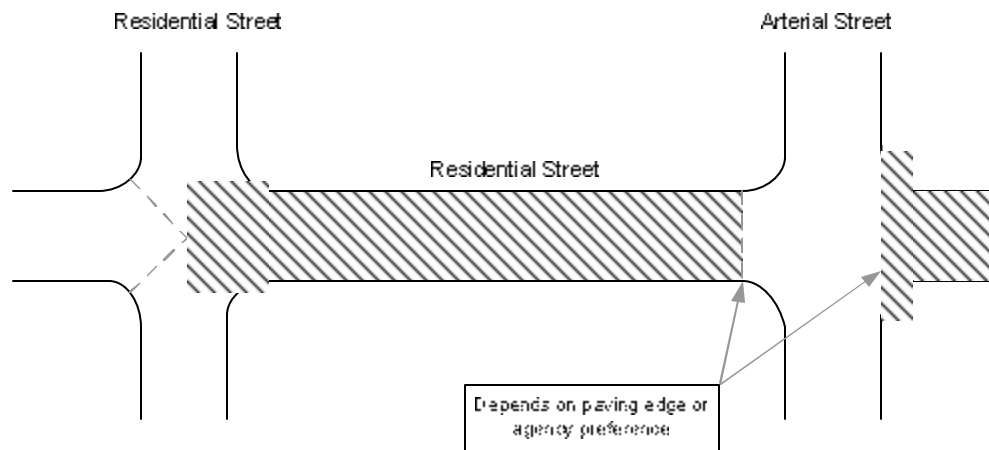

Figure 1 Rating segment/sample boundary definition
- ❑ Areas within the curb returns are considered a part of the intersection for rating purposes. Intersections are generally rated with the higher functional class street or in a given direction. Intersections may also be rated and recorded separately. Each agency needs to develop its own policy. For streets with the same classification or if you are not sure, mentally draw an "X" between opposite corners and rate or inventory the pie shaped piece with the appropriate segment. See Figure 1 in Appendix B.